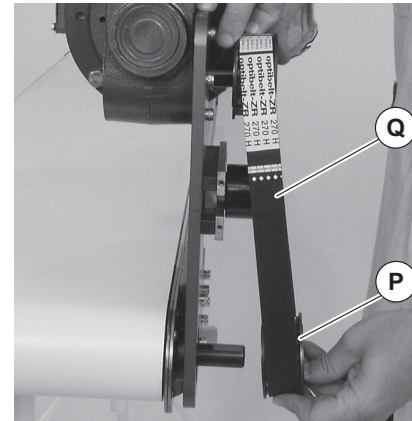

Figure 16
- c. Remove pulley (Figure 16, item P) and timing belt (Q).